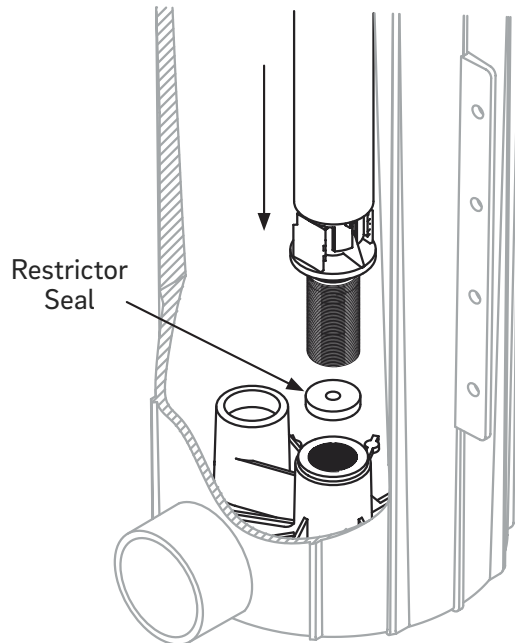

Figure 9
2. Before installing the float assembly, be sure to insert the white restrictor seal into the bottom of the center threaded port inside the canister (Figure 9). This must be done before threading in the float assembly. The restrictor seal reduces the flow entering the float assembly, while providing the necessary water-tight seal.